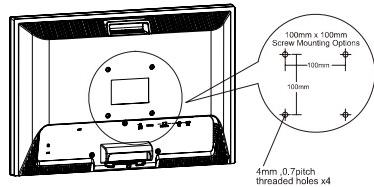

Figure 1-4
The rear of this LCD display has four integrated 4 mm, 0.7 pitch threaded nuts, as well as four 5 mm access holes in the plastic covering as illustrated in Figure 1-4. These specifications meet the VESA Flat Panel Monitor Physical Mounting Interface Standard (paragraphs 2.1 and 2.1.3, version 1, dated 13 November 1997). Note: Please use M 4mm x 16mm (L) screw for this application.